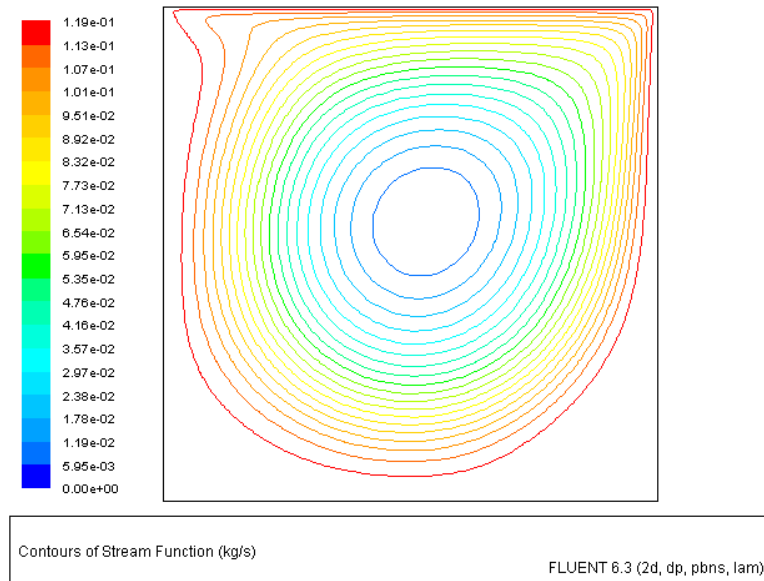

Figure 1.10: Contours of Stream Function
2. Display stream function (Figure 1.10).